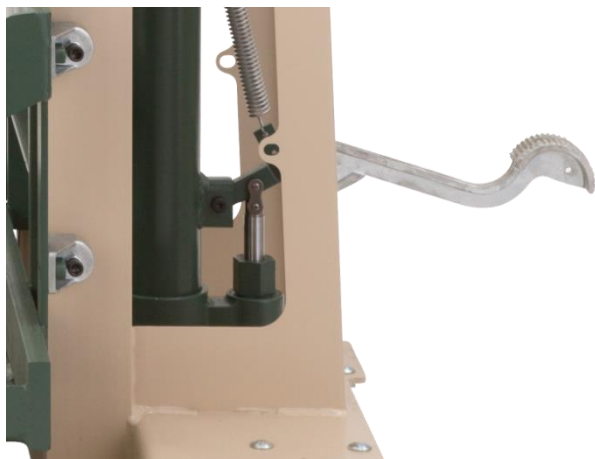

Figure 16: Lift truck foot pedal
3. Raise the lift truck platform by pumping the foot pedal (see Figure 16). Release the foot brake and push the lift truck towards the breaker cell (see Figure 17).